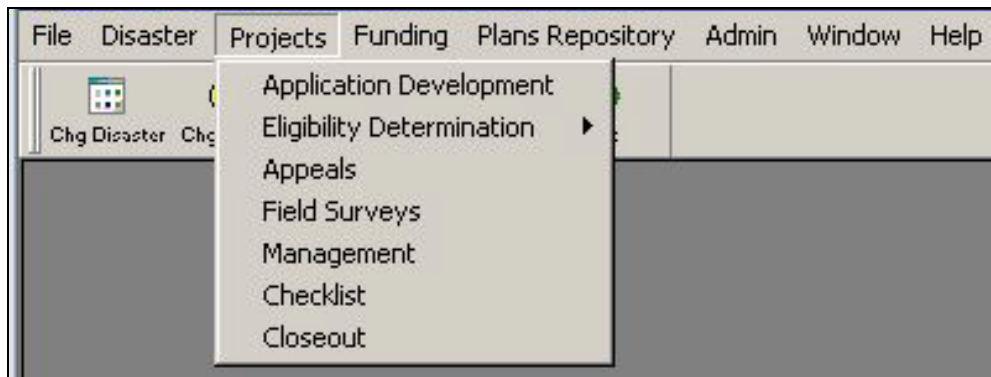

Figure 1-13: Mitigation Menu Bar > Projects Menu
10. Select the process you want to perform by clicking on your selection (Figure 1-13). Hovering over the top items will show you the choices available within each item.